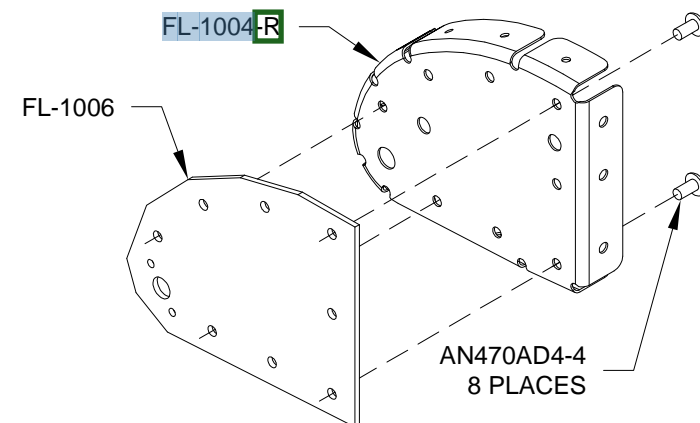

FIGURE 2: INBOARD ROD END RIB SUBASSEMBLY
Step 2: Rivet the inboard rod end rib subassembly together using the rivets called out in Figure 2. Place the manufactured head on the thinner material.